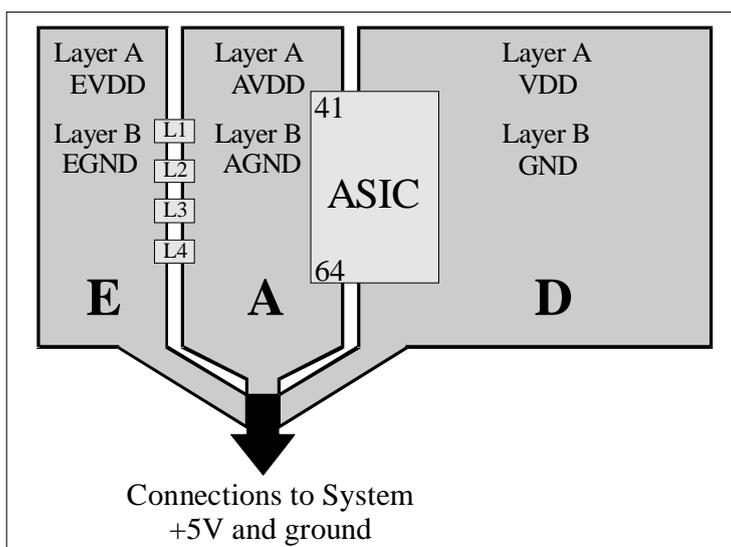

Figure 2. Sample PCB Layout
The layout of the Excalibur chip set is straightforward. The general layout suggestions listed below should insure maximum performance from the Excalibur chip set implementation. Refer to Figure 2 for a sample PCB layout.
5. Place U1 (Excalibur ASIC) such that it bridges zones A and D as shown in Figure 2. This places the analog portion of Excalibur over the AGND and AVDD planes, and the digital portion over the GND and VDD planes.